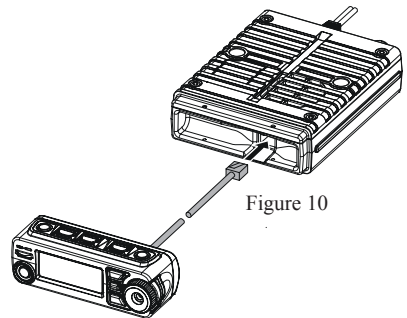

Figure 10
8. Connect the 8-pin modular plug of the Connection Cable to the Transceiver (Figure 10).